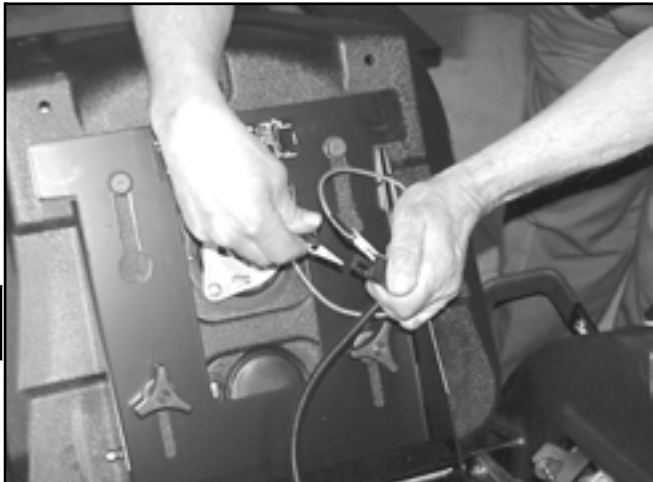

Figure 51
15. Remove the jumper wire to the seat and reconnect the seat switch (Figure 51).